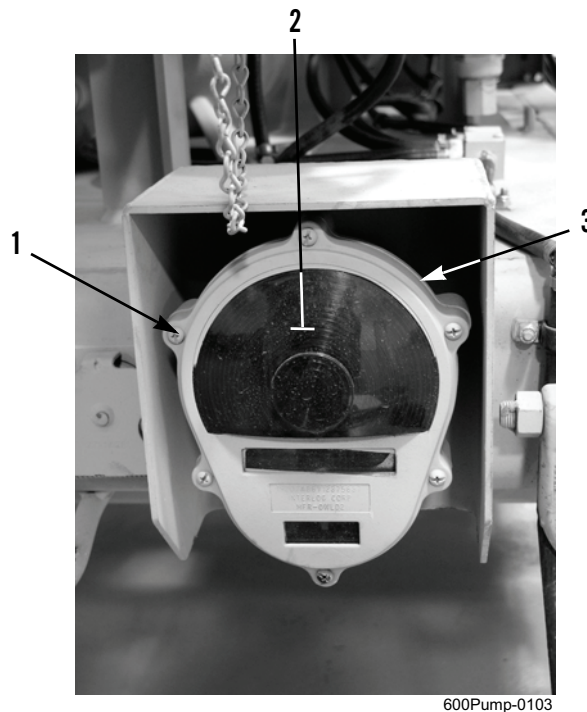

Figure 1. Taillight Lens.
1. Loosen six captive screws (Figure 1, Item 1) and remove taillight lens (Figure 1, Item 2) from taillight body (Figure 1, Item 3).